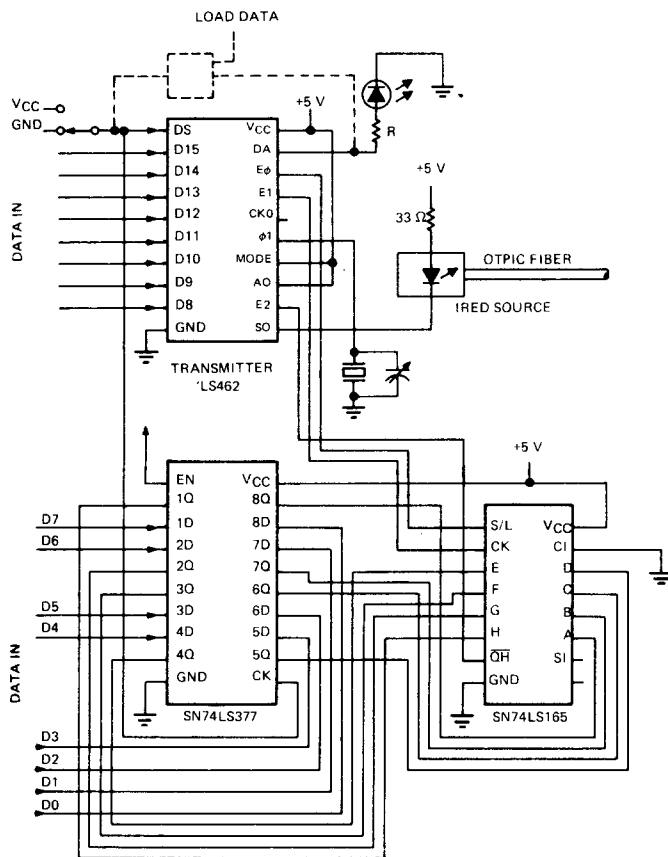

FIGURE 7 — SN74LS462 16-BIT CONFIGURATION
The transmitter has a clock input ( $\phi$ ) for connection of crystal or TTL-level clock. The bit time is defined as eight cycles of the clock input so that for one-megabit-per-second operation, the clock ( $\phi$ ) frequency must be 8 megahertz. The clock output (CKO) may be used to source the SN74LS463 receiver clock input when full-duplex (bidirectional) systems are configured. The two expander outputs, E0 and E1, and the expander input E2 are used to control external devices when the transmitter is configured for 16-bit operation (see Figure 7). However, for 8-bit operation E1 must be tied directly to  $V_{CC}$  (+5 volts).
Sixteen-bit expansion of the transmitter is effected through connection of an SN74LS377 octal D-type flip-flop and an SN74LS165 octal shift register to the expander pins of the transmitter (E0, E1, and E2). (See Figure 7). Addition of these two standard low-power Schottky devices effectively expands the buffer and shift registers of the transmitter to 16 bits. Input E2 is the serial data output of the 'LS165. Outputs E0 and E1 control the shift/load and clock functions, respectively, of the 'LS377 external buffer register. Note that the data start (DS) input is also used to clock data into the 'LS377 external buffer register. Operation in 16-bit mode is identical to 8-bit operation except that the transmitted word length is now 16-bits long.